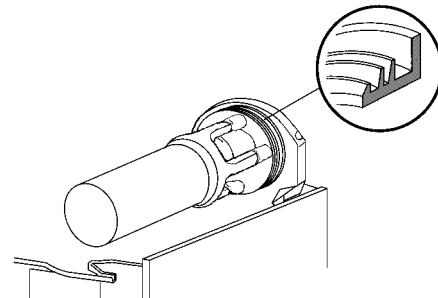

figure 15
- 4 - Fit bowl gasket around its seat. Note: the largest brim of gasket must face against the rear wall (see figure 15).